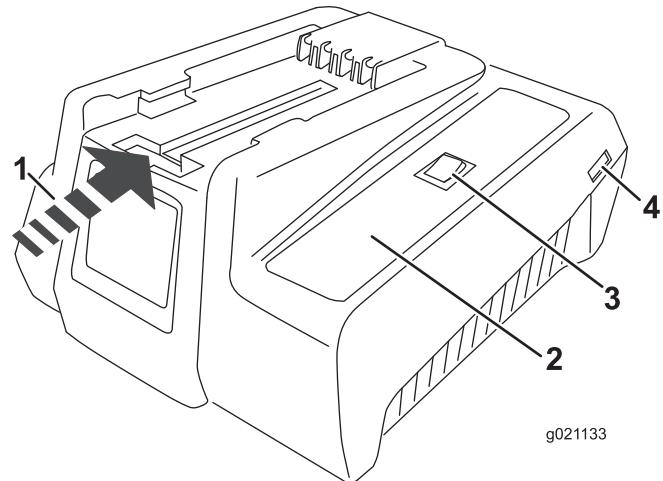
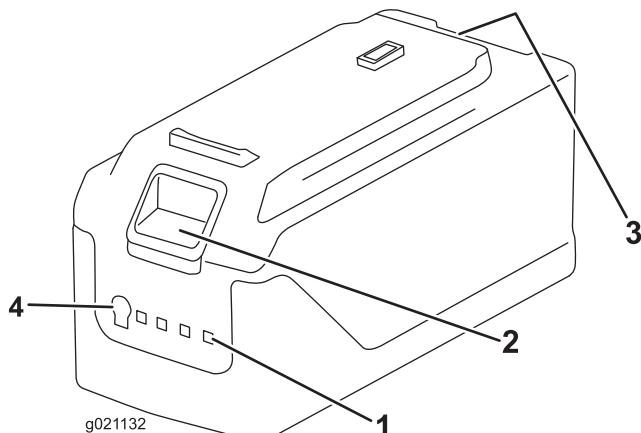

Figure 5
Figure 6
1. If the power cord is not plugged in to the charger, plug it into the charger (Figure 5), then plug the power cord into a power socket.
2. Turn the battery upside down and line up the battery terminal with the slot in the charger (Figure 5 and Figure 6).